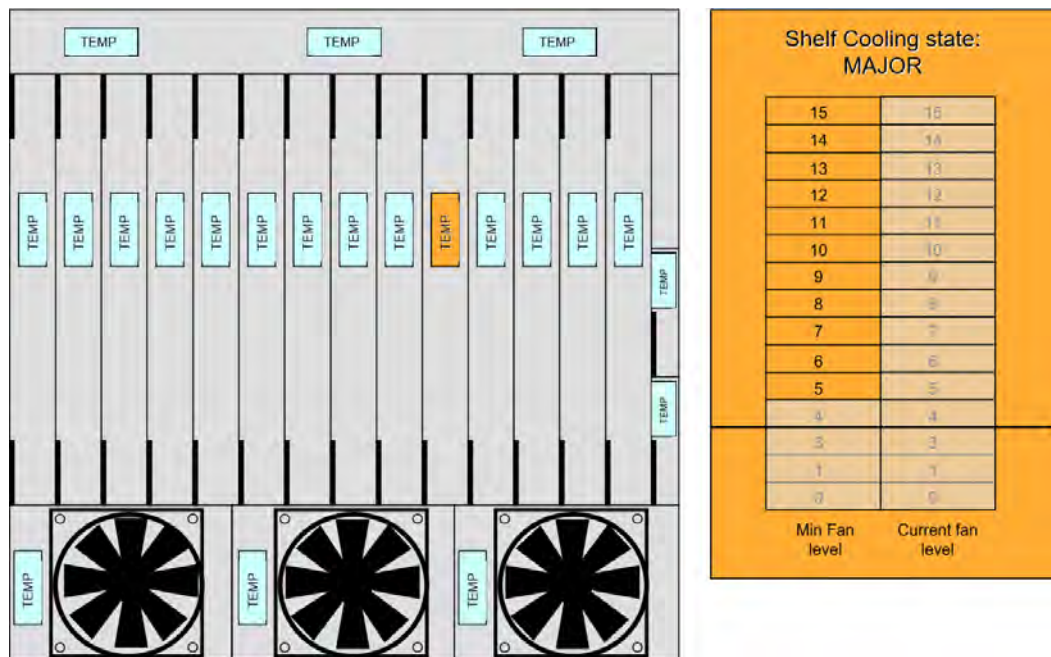

Figure 4.3: Shelf Manager Major Alert [6]
In this case, the Shelf Manager sets the fan level at its maximum (15), then decreases it progressively regarding the temperature value (*Figure 4.3*).